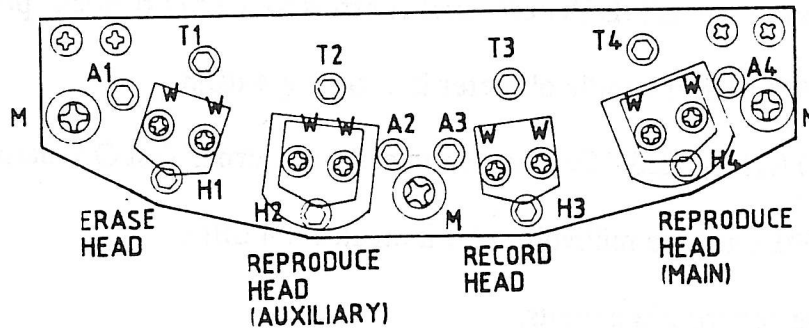

Figure 10 Head Adjustment Screws
HEAD ADJUSTMENT SCREWS (Refer to Fig. 10)
If the trapezoidal wear pattern is as shown in Figure 11A, then turn screw T4 (in Figure 10) counterclockwise to bring the lower portion of the head forward.
If the trapezoidal wear pattern is inverted from that shown in Figure 11A, then turn screw T4 (in Figure 10) clockwise to bring the top of the head forward.
8. Once the wear pattern is symmetrical, repeat Steps 3 - 6 and inspect the wear pattern for correct head height adjustment. The pattern should be centered over the pole pieces of the head, as shown in Figure 12. If necessary adjust screws T4, H4, and A4 (in Figure 10) simultaneously, and by the same amount, until the wear pattern is correct. If the wear pattern is high on the pole pieces, then the head is too low. In that case turn screws T4, H4, and A4 clockwise until the correct wear pattern is obtained.
4. Place the machine in Play mode. Adjust the screw marked A4 in Figure 10 until the oscilloscope display looks like Figure 13C.
7. If the level increases when you press on the Left side of the gap, then loosen the screws marked "W" in Figure 10 slightly, and turn the head slightly to the Left. Try to loosen both "W" screws by the same amount to maintain the Head Azimuth. If the level increased when you pressed on the right side of the Gap, then turn the head to the right.